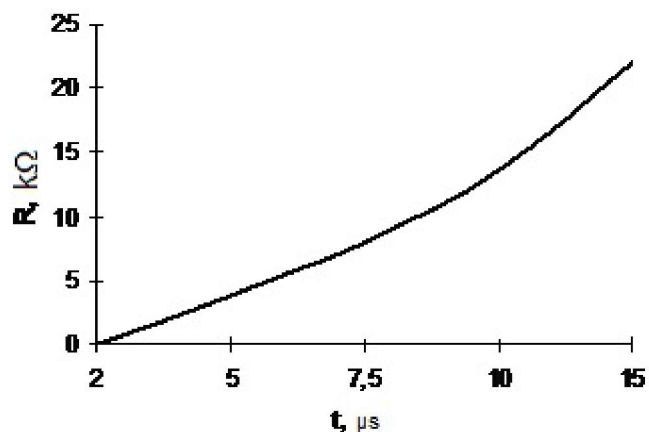

Figure 10 – Dependence graph of "dead time" duration versus nominal of trimmer resistors  $R_{dt}$
| “Dead time” between changes at outputs of first and second channels | $t_{TD}$       | $\mu$ s    | 2     |      |      | adjusted by customer; see Figure 10 |
**Resistors Rdt1, Rdt2** – timing resistors of delay adjusting for switching of first and second channels. Resistors regulate turn-on delay time thereby at installation of different nominal resistors the delay for switching at forward fronts of control pulses of first and second channels will be different. In the case if delay time decreasing is not necessary instead of resistors should be installed jumpers. Delay time dependence on the resistors nominal is represented at Figure 10. Initially are installed resistors with nominal  $1\Omega$  that is the factor that of minimum “dead time”  $2\mu s$ .